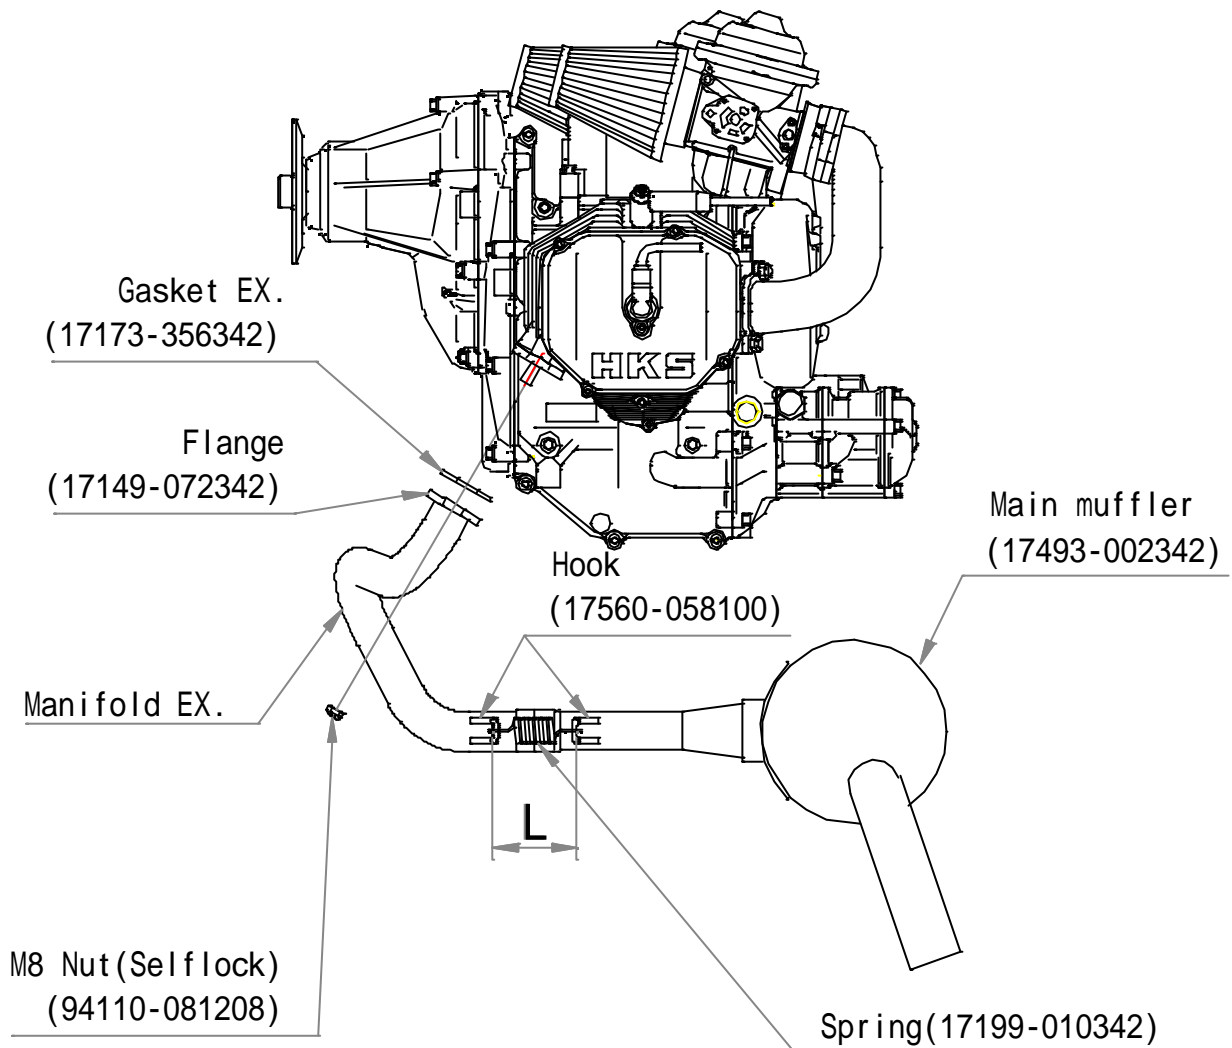

Fig.3 Exhaust System
- To create a custom exhaust manifold, refer to the engine and muffler layout in FIG. 3 for a basic reference.
- Weld the spring hooks at the junction of the manifold and the muffler. The dimension for L in Fig.3 should be 70mm (2.7in.).
- Place the exhaust gasket between the exhaust flange and the exhaust port of the engine (refer to Fig.3).